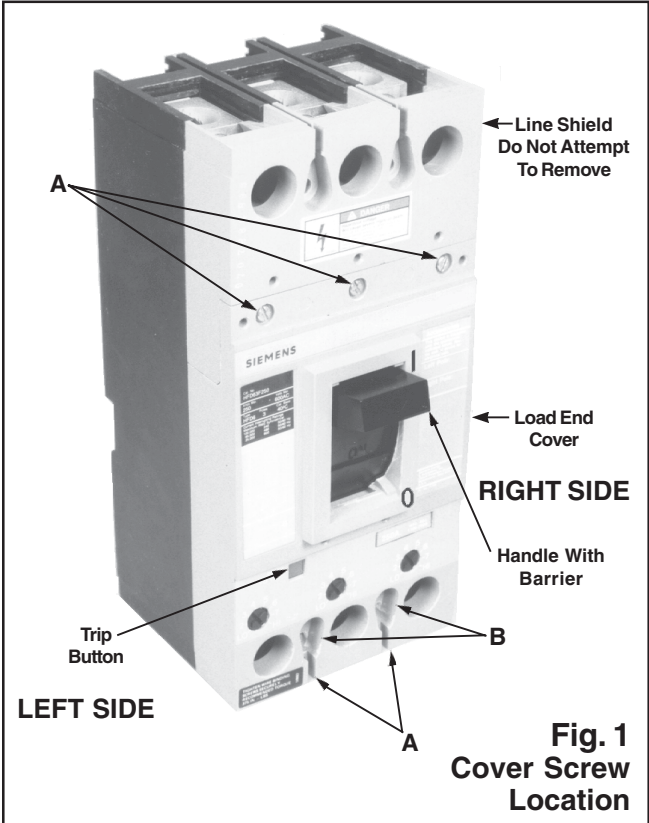

Fig. 1
1. Depress trip button (See Fig. 1) to trip circuit breaker prior to removing cover. Before installing accessory unit, breaker **must** be in tripped position.
2. Remove five load end cover screws (A, Fig. 1) and, if breaker is mounted, also remove two mounting screws (B, Fig. 1). Remove load end cover only, and remove handle and handle barrier.
7. Replace handle and handle barrier (orient tabs and handle "ON" marking nearest trip unit), load end cover and cover screws (quantity 5), and two mounting screws if removed (See A & B, Fig. 1).